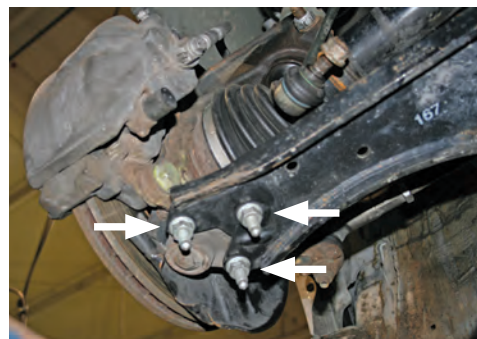

fig. 4
3. Remove the three lower nuts from the lower ball joint and control arm (Fig. 4). Detach the ball joint and hub assembly from the control arm.